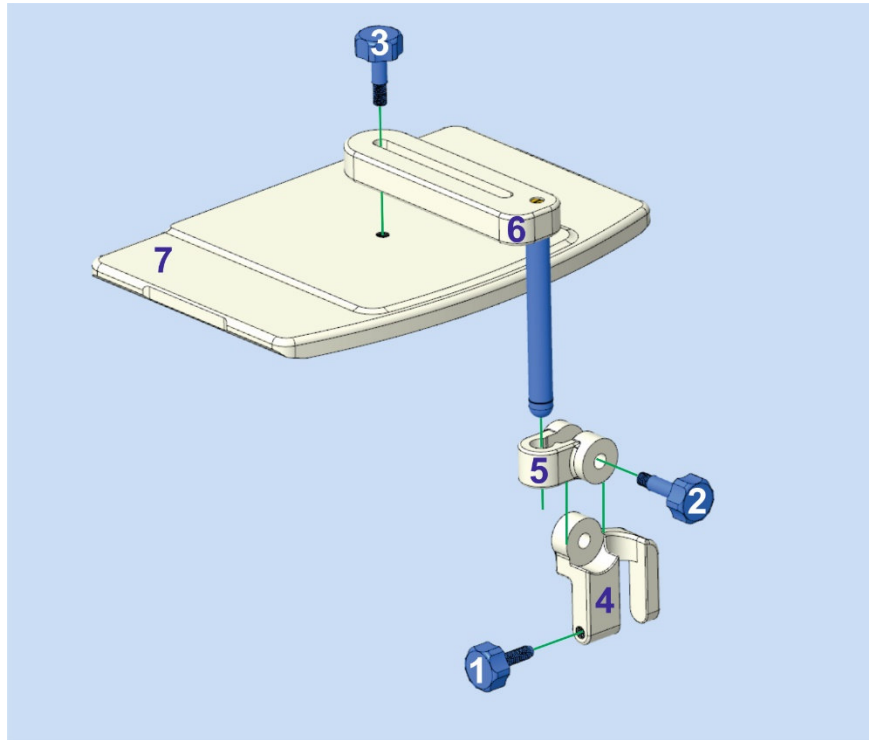

Figure 17: ER Coil Support assembly in “Coil HLD” setup.
- See Figure 17 for details on component arrangement.